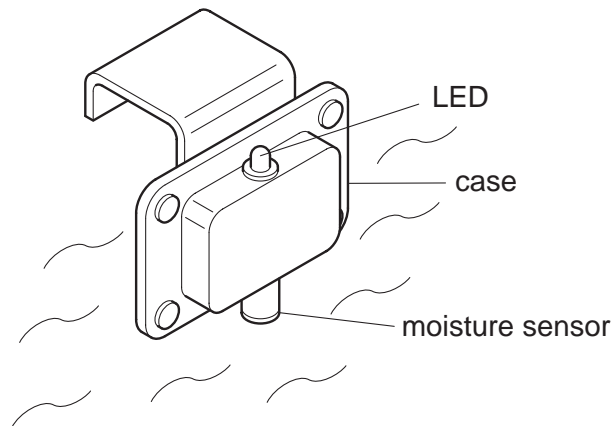

Fig. 4
- 3 Fig. 4 shows a battery powered alarm which uses an LED to warn the user when the bath water reaches a maximum level.